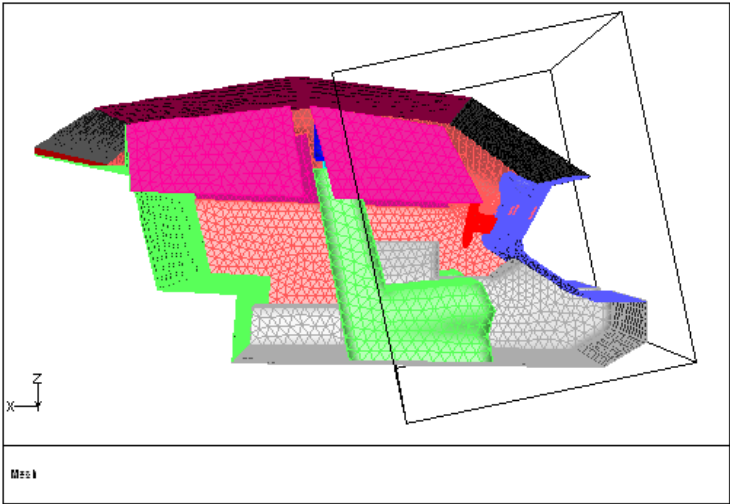

Figure 5.13: Refinement Region
F. Click Draw to visualize the refinement region (Figure 5.13).